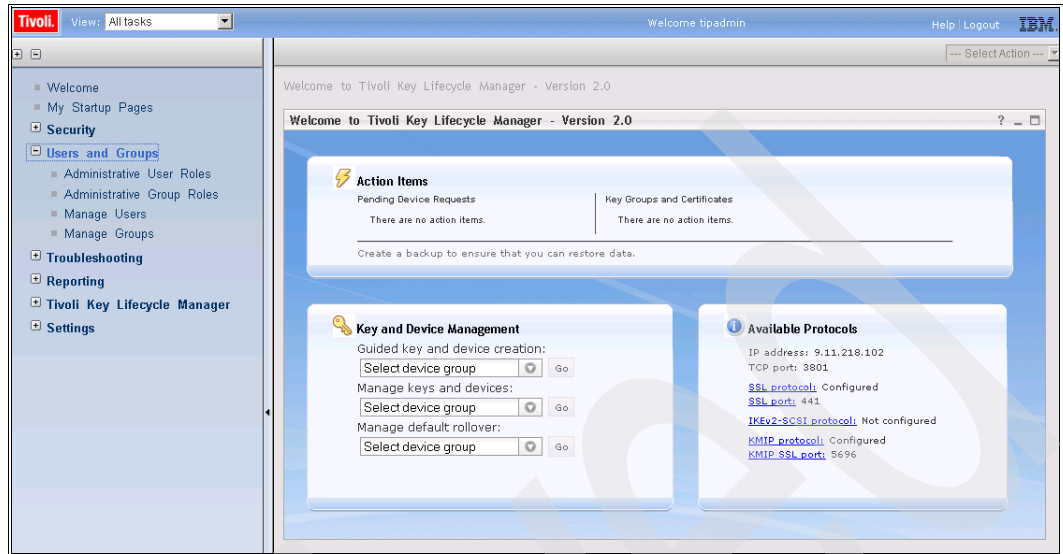

Figure 9-3 Welcome panel with Users and Groups expanded
- Expand **Users and Groups** in the navigation pane and select **Manage Users** (Figure 9-3).
2. Expand **Users and Groups** in the navigation panel (Figure 9-3 on page 164) and select **Administrative User Roles**.